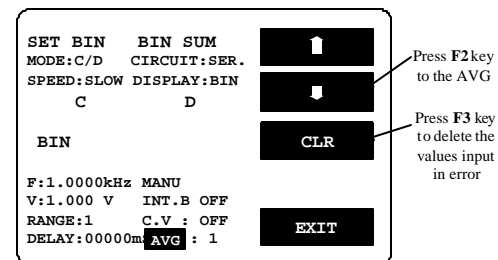

Figure 8-13
- Press  $\Delta$  key shown as Figure 8-13 below. For further details, please refer to 4-5-7.